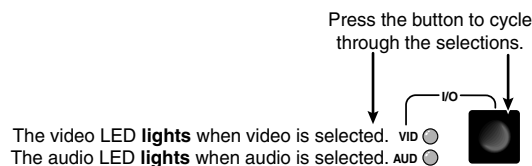

Figure 3-3 — Select video and audio
1. Select video and audio for the tie (figure 3-3).